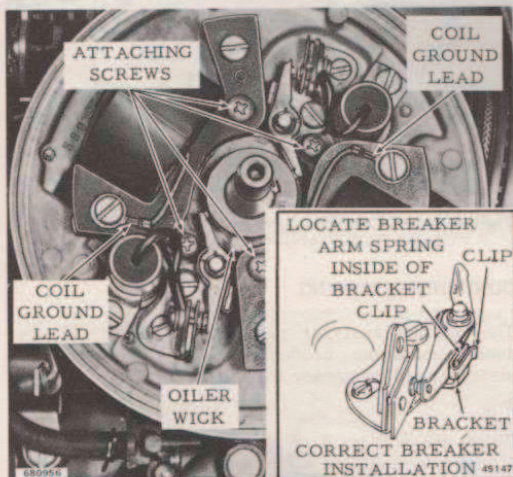
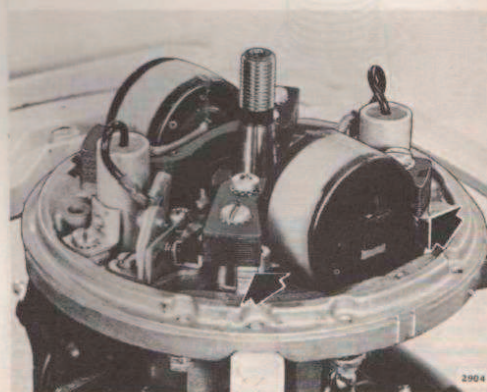

Figure 4-6. Armature Plate Attaching Screws
Figure 4-14. Coil Locating Bosses
- a. Refer to Figures 4-6 and 4-7 for correct assembly. Correct locating of the coil and lamination assemblies is governed by machined mounting surfaces on the armature plate. Coil lamination heels should be flush with machined surfaces. See Figure 4-14.
b. Make sure that a new oiler wick is installed under the forward coil. See Figure 4-6.
d. Place the armature plate in position over the crankshaft, using care to avoid damaging the breaker arms on the cam. Make sure that throttle cam follower is not caught under throttle control cam. See Figure 4-18. Tighten the four Phillips head screws. See Figure 4-6.